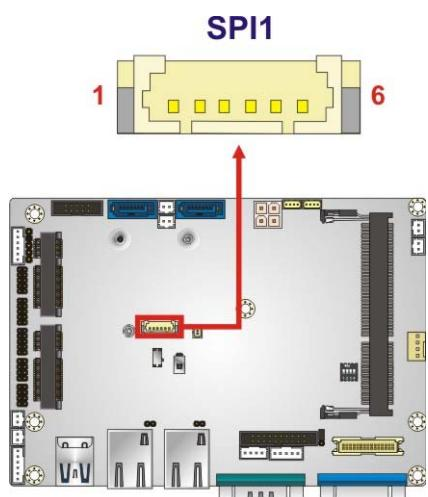

Figure 3-26: SPI Flash Connector Location
**CN Location:** See Figure 3-26